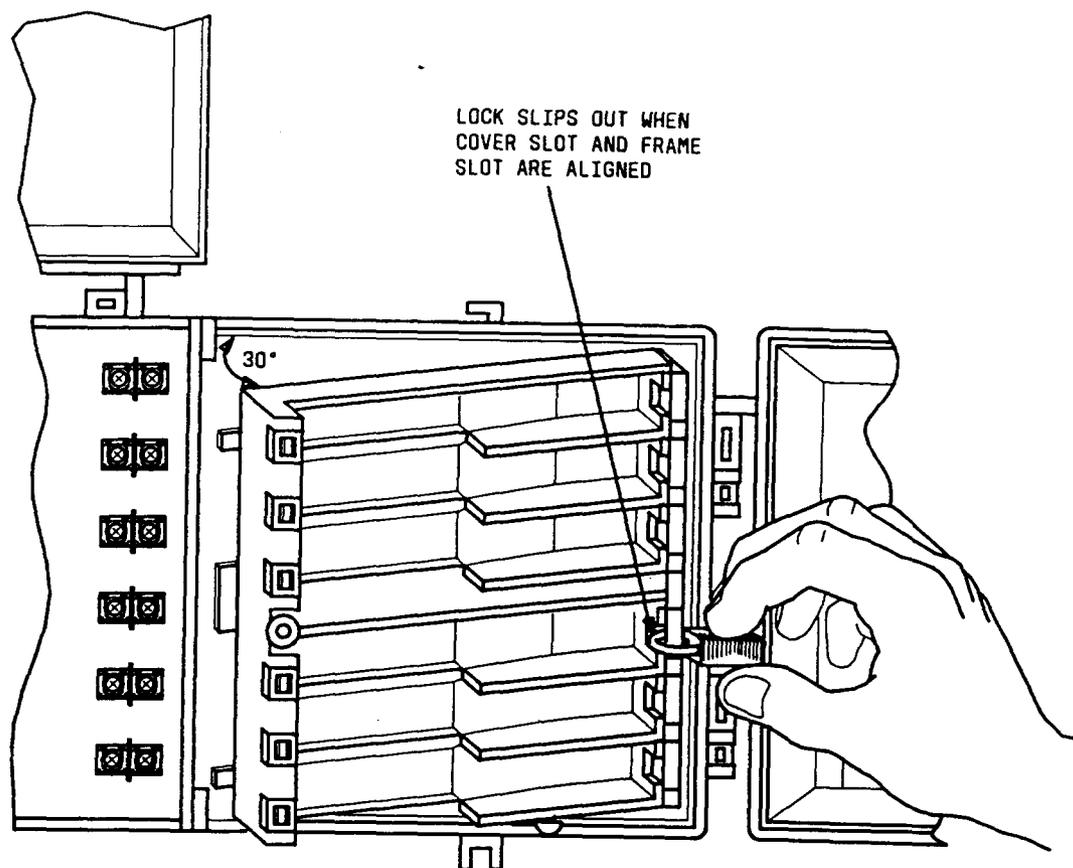

Fig. 21—Aligning Frame Slot With Edge of Cover for Lock Removal
- (3) Push required cover in to align frame slot with edge of cover. Lock can then be lifted out (Fig. 21).
- (4) Close security frame.
- (5) Close designated cover to lockable position.
- (6) Close and secure cover on protector side of unit.
- (7) Close and secure customer access cover.